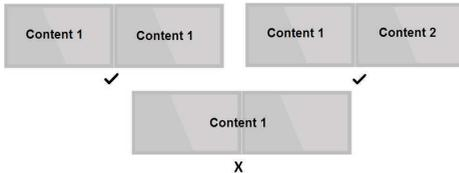

Figure 13
3. The USM-110 device can support dual displays but cannot support the presentation of a single video or image across two displays (as shown in Figure 13)